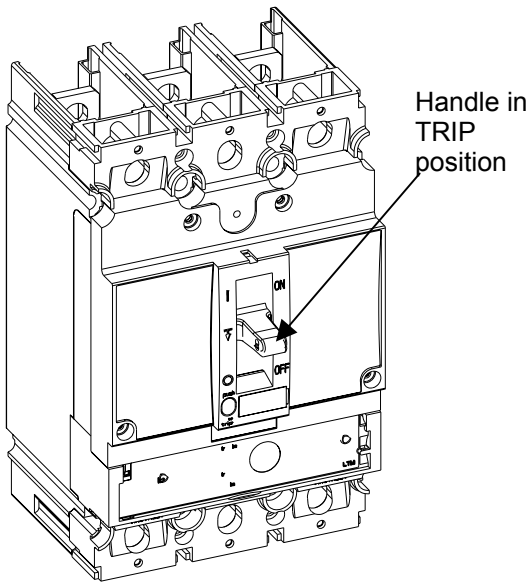

Figure 3. Trip the breaker to indicate TRIP
1. Push the trip button to place the breaker operating handle in the TRIP position, as illustrated in Figure 3